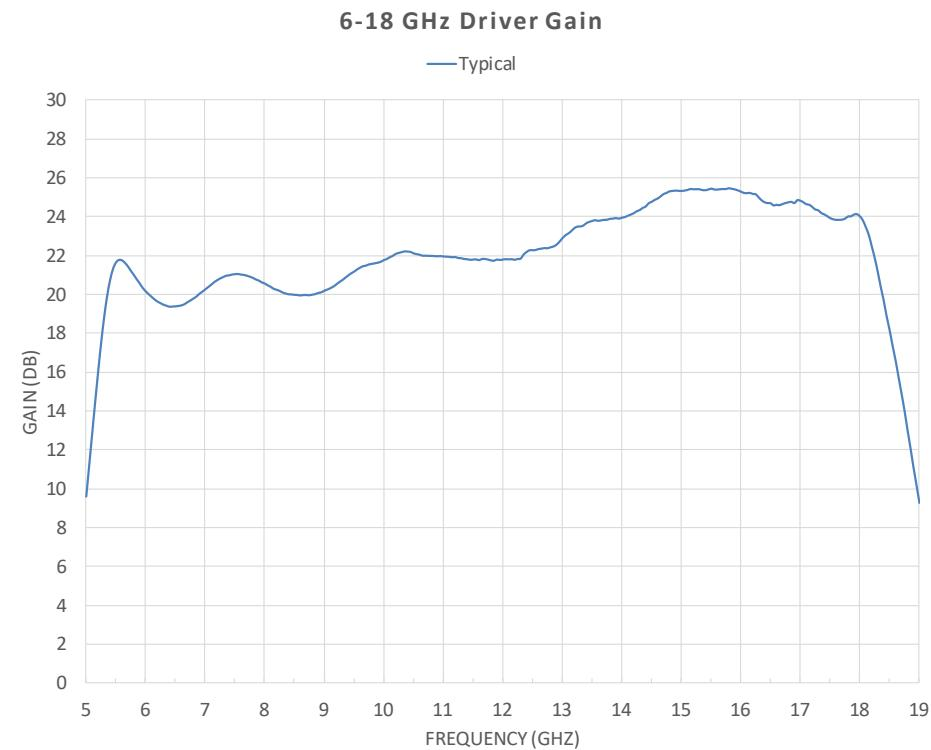

Figure 4-6. Typical A1A2 Driver Amp Response
11. If the A4 & A5 20-watt module to the RF output connector is normal, check the response of the A1A2 Driver Amp. The gain should be approximately 16-18 dB. See Figure 4-6 for a typical A1A2 Driver Amp response (including the shaper).